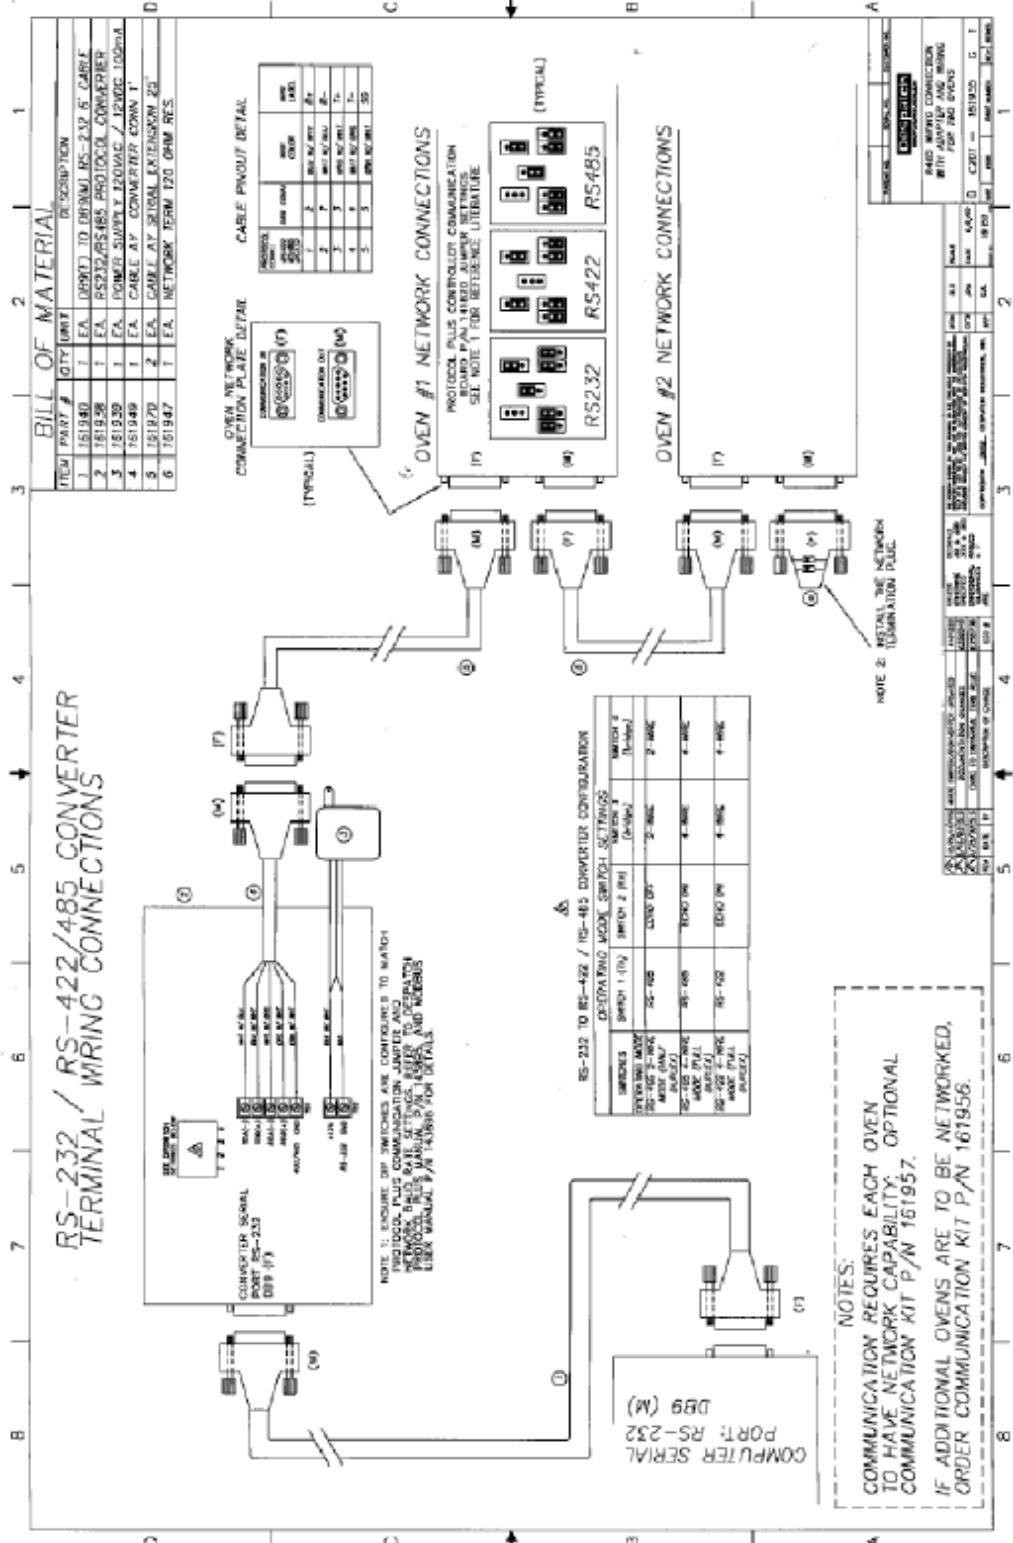

Figure 24. Newer model serial converter schematic.
- Review schematics for newer model serial converters (Figure 24)